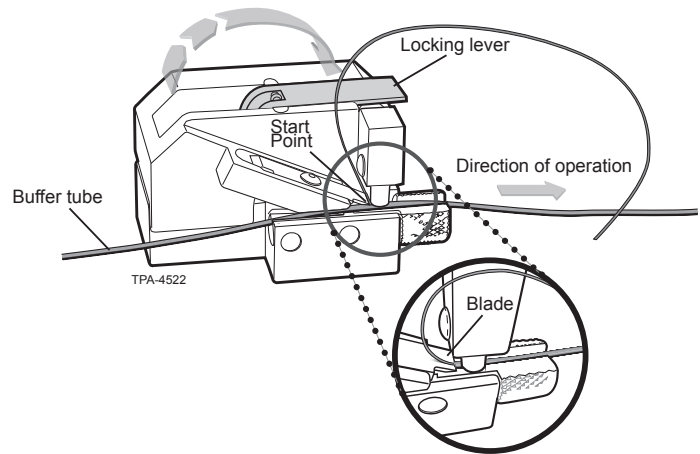

Figure 22
- d. Pull the tool as shown in Figure 22 to shave off the top of the tube and gain access to the fibres (refer to the marks on the buffer tube as required).